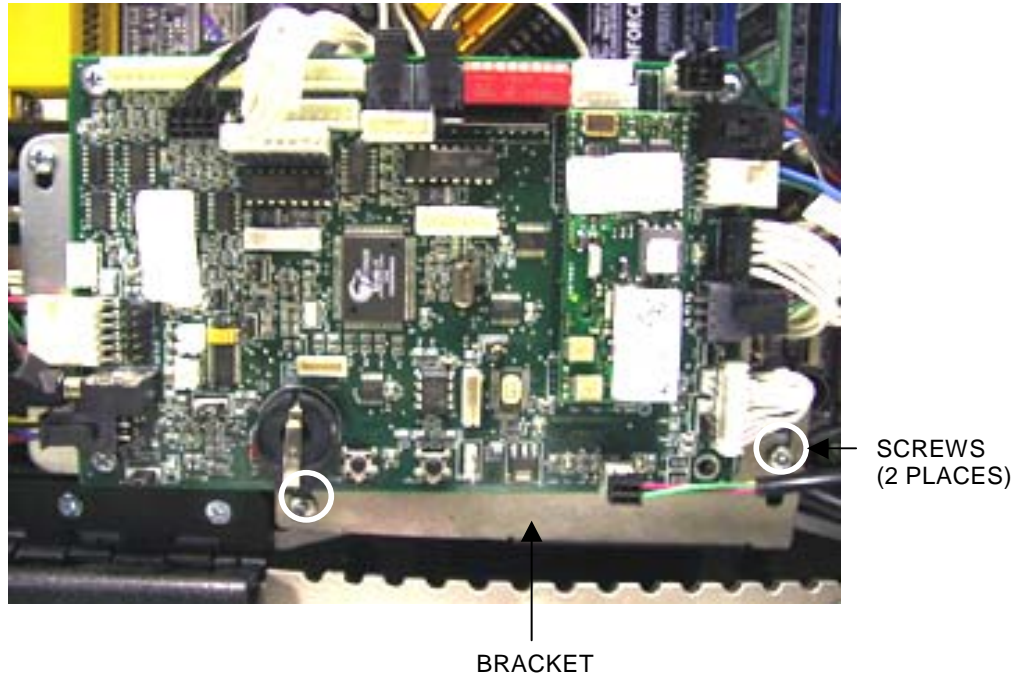

FIGURE 3 - BRACKET AND SCREWS SECURING VGA MONITOR IN PLACE
10. Connect the new VGA cable to both the monitor and the motherboard. Run the cable beneath the I/O board mounting plate and secure it in place with the bracket and 2 screws. See Figure 3. Also replace the ground wire.